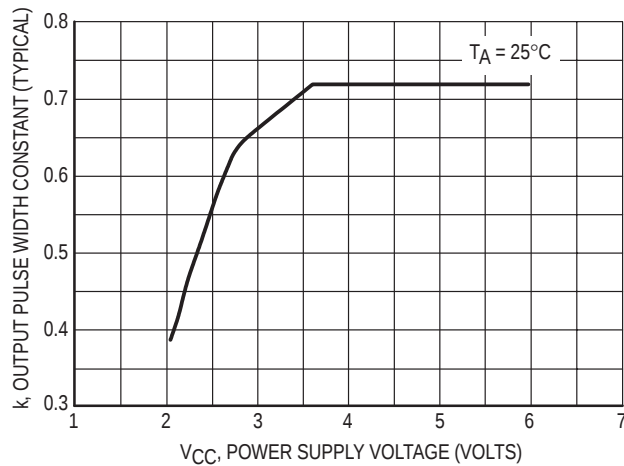

Figure 1. Typical Output Pulse Width Constant, k , versus Supply Voltage
*For output pulse widths greater than $100 \mu\text{s}$, typically $\tau = kR_X C_X$, where the value of k may be found in Figure 1.